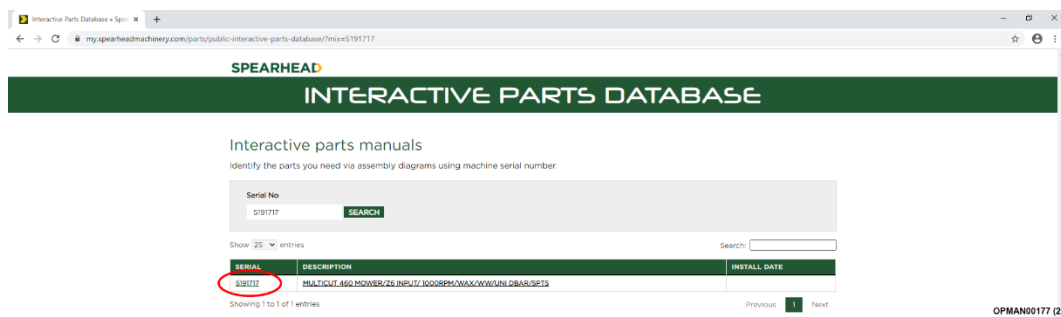

Figure 33 – Click On Serial Number
11.2.1.2 After entering the serial number a specification for the machine will appear. Click on the serial number; see Figure 33.